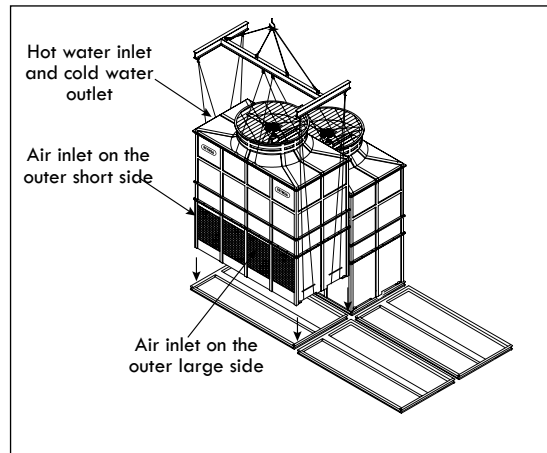

Figure A-104: X-Orientation - Second T2 module lifting and installation (RTGM and RTGMTC Models)
- C. Lift the second module and place it on top of the isolation pad and the steel structure, making sure that the side without air inlets is facing inward, parallel to the long side of the first module, and that the water inlet and outlet are facing outward. Secure it with the galvanized steel nut and bolts sets supplied by others (see Figure A-104).